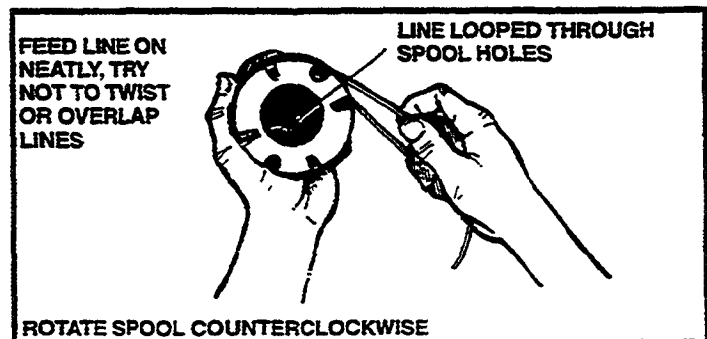

Figure 18
- Loop the line through holes in the spool and make certain that both lines are even (Figure 18).
- Hold the spool as shown (Figure 18) and feed line on neatly by rotating the spool counterclockwise.